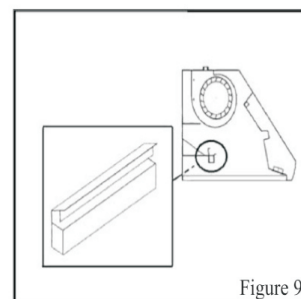

Figure 9
5. Drop oil tunnel into recess support near rear of hood. Refer to Figure 9.